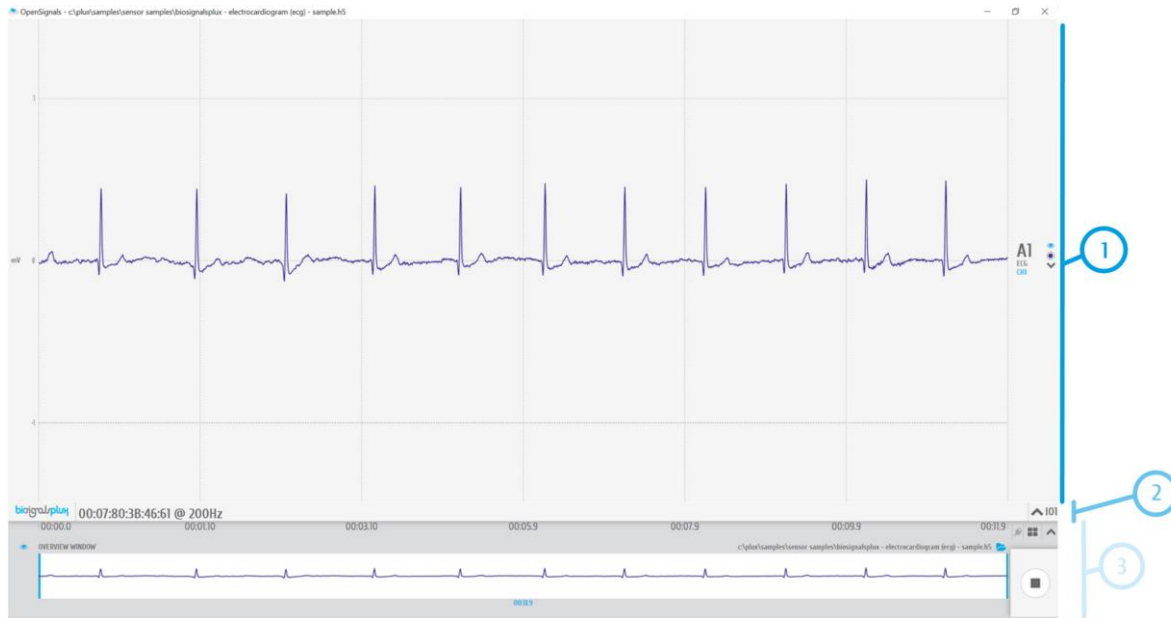

Figure 93: Sections of the visualization mode.
- Signal visualization (1 in Figure 93; see section 3.2.2 *Signal Visualization*)
- Information bar (2 in Figure 93; see section 3.2.3)
- Control bar (3 in Figure 93; see section 3.2.4 *Control Bar*)